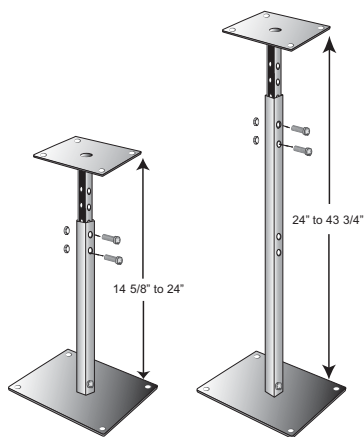

Figure 3
4. Assemble the Pole Pieces together making sure to orient them as illustrated in figure 3 on the next page.
Set the Pole Pieces to the desired length and secure the position using the two Round Head Phillips 1/4-20 x 2-1/4 Screws and two 1/4-20 Lock Nuts. Refer to figure 3.